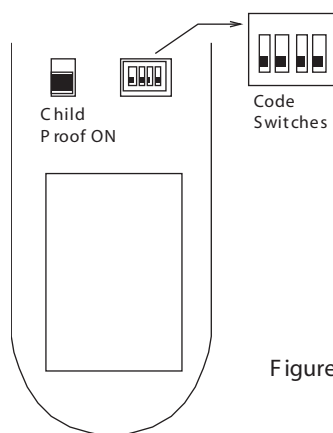

Figure 7
2. Slide the CHILD-PROOF switch to position marked C/P to activate the CHILD-PROOF function “*Child-Proof *” will appear on the LCD. See Fig 7.
You can set a private code into your system to prevent accidental operation by another transmitter nearby. See Figure 7.